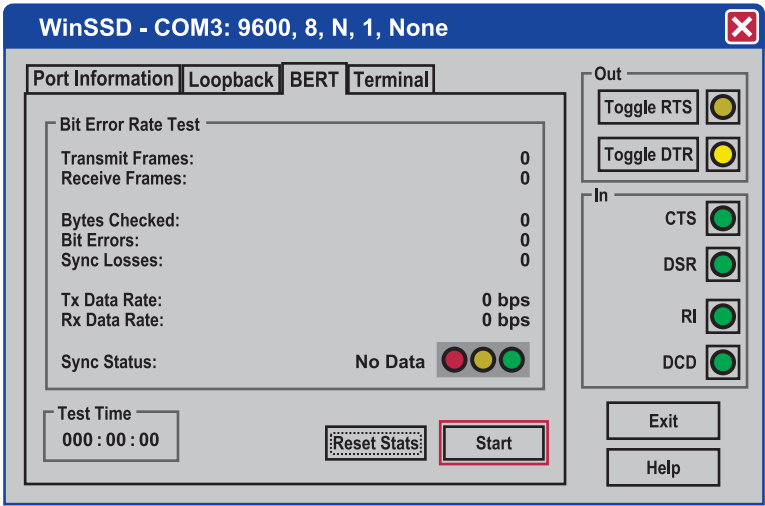

Figure A-3. Start button in WinSSD COM3 screen.
- Select the “BERT” tab and with the loopback connected to the port you want to test, click on the “Start” button. If testing RS-485, be sure that ECHO is enabled (see Figure A-3).